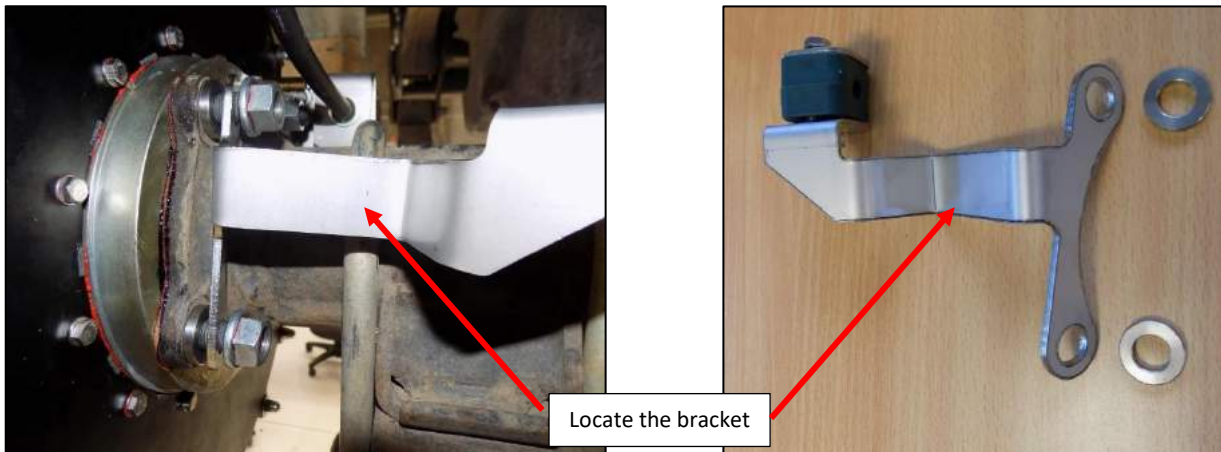

Figure 13
24. Fit the park-brake cable bracket to the mounting studs (Figure 13).